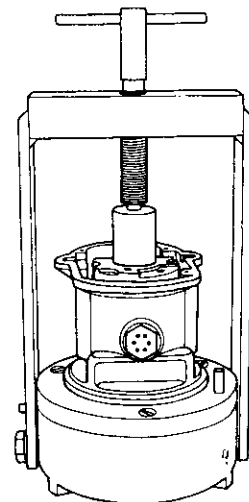

Figure 7.2
- Insert rotor and frame assembly plug (T-102) into the T-100 fixture T-handle. (See Figure 7.2).